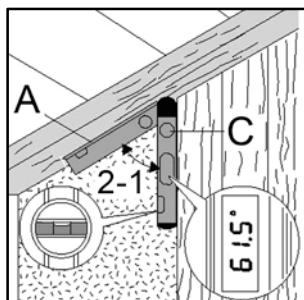

Fig. 2
Position the fold-out arm (A) and the base (C) flat against the two surfaces that form the angle (Fig. 2). The displayed reading corresponds with the internal angle (Fig. 2-1) between the base and the fold-out arm. The reading is indicated on the display until the arm or base is moved in relation to each other.